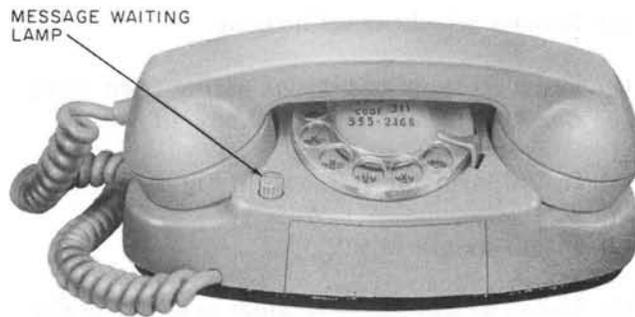

Fig. 3—701D (MD) and 702D (MD) Telephone Sets
2.05 The 701D (MD) and 702D (MD) telephone sets are equipped with a message waiting lamp (Fig. 3). They are used with PBX's which provide a message waiting feature.